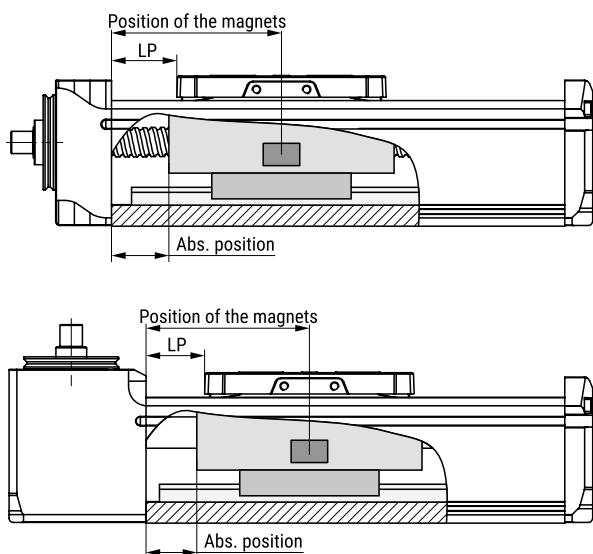

Figure 12: Position of the magnets for the MGBS and MGTB.
- i** The position of the magnets can be calculated using the absolute position or distance LP, see Figure 12 and Table 5, where both MGBS and MGTB are taken into account.